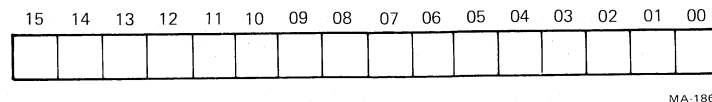

Figure 4-29 RX2BA and RX2DB Format (RX211/RXV21)
4.3.2.6 RX2BA – RX Bus Address Register (Figure 4-29) – This register specifies the bus address of data transferred during fill buffer, empty buffer, and read definitive error operations. Incrementation takes place after a memory transaction has occurred. The RX2BA, therefore, is loaded with the address of the first data word to be transferred. This is a 16-bit, write-only register (Paragraph 4.3.3).
4.3.2.7 RX2DB – RX Data Buffer (Figure 4-29) – All information transferred to and from the floppy media passes through this register and is addressable only under the protocol of the function in progress (Paragraph 4.3.3).